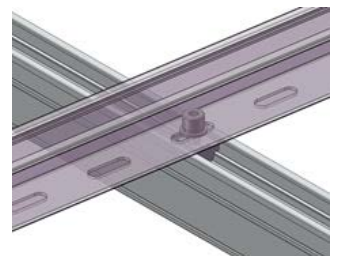

Figure 16
3) Position the Cable Tray on the top of ECO Rail by installing z module into the top channel as shown in Figure 16. Leave z module untighten.